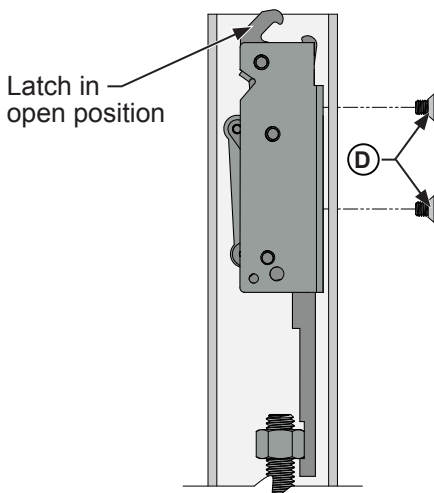
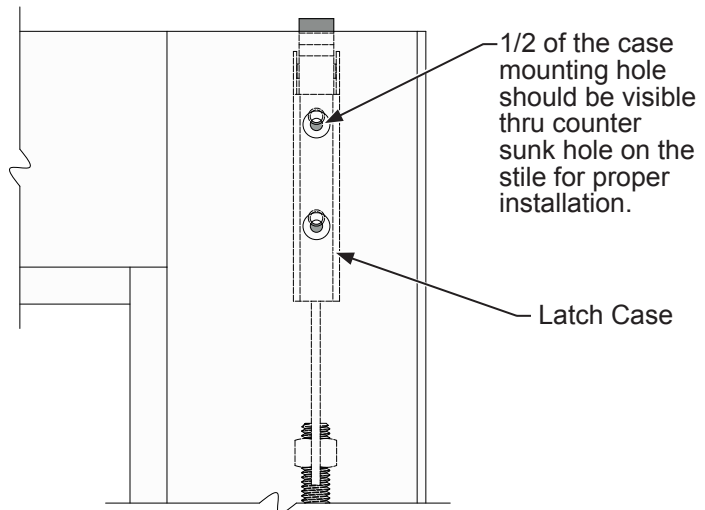
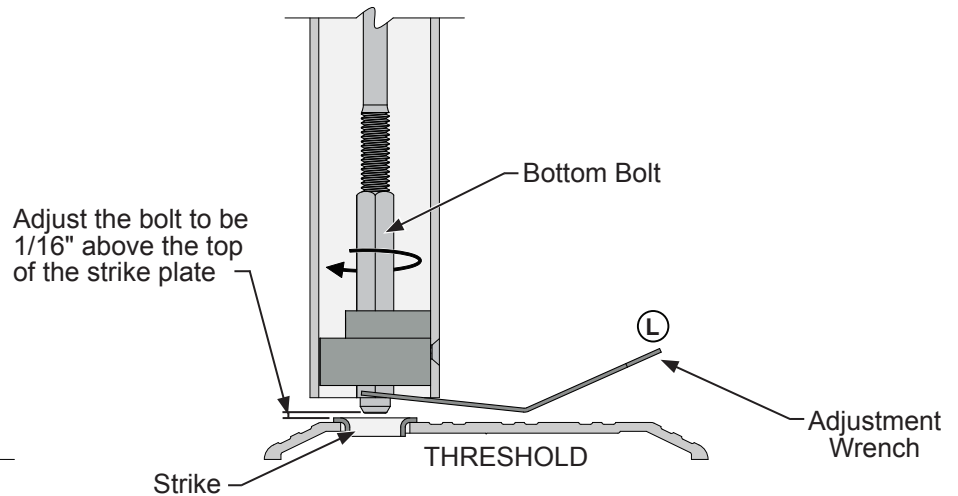

FIG. 20
FIG. 21
FIG. 23
2. Remove the (D) (2) 10-32 x 1/4" flat head machine screws at the top of the active door stile. Adjust the top latch into the open position. **(Fig. 20)** Rotate the top latch case until the mounting holes on the latch case are off-center to the countersunk holes on the active stile. **(Fig. 21)** Re-attach and secure the latch case with the (2) (D) 10-32 x 1/4" flat head machine screws.
2. Depress the push bar, The bottom rod will retract and the latch will move to the unlocked position. **(Fig. 20)** With the latch in this position adjust the bottom bolt using the adjustment wrench (L) included. **(Fig. 23)**
Depress the push bar. The bottom bolt should retract to the bottom edge of the door stile. The upper latch will return to the open position. **(Fig. 20)**
**(Fig. 23)**